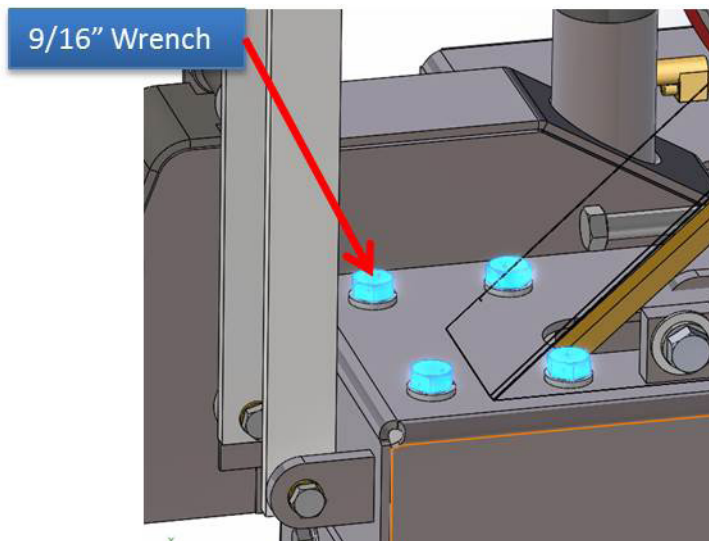

Figure 8. Loosening Spindle Bearing Screws
7. Lightly loosen the four spindle bearing screws, 1 to 2 revolutions (Figure 8).
11. If faces are still not flush, recheck alignment tool face for dings. Remove any dings with a file. Slowly loosen spindle bearing screw more until flush (Figure 8).